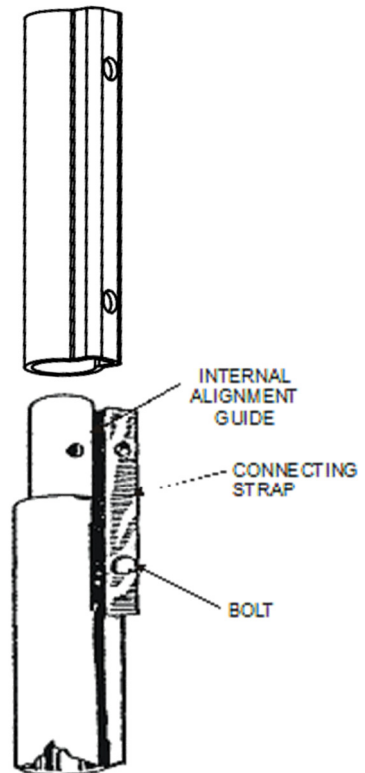

FIGURE 2
f. AN INTERNAL ALIGNMENT GUIDE AND CONNECTING STRAP is bolted to the top of each section. Loosen the bolts, place-connecting strap in proper position for attachment of next section. See figure 2.